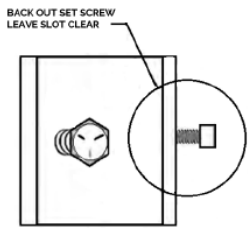

Figure 1: Loosen the Ceiling Bracket Set Screw So No Threads are Visible in the Bracket Channel
1. Loosen the set screw on the ceiling bracket so no threads are visible in the bracket channel. (See Figure 1)